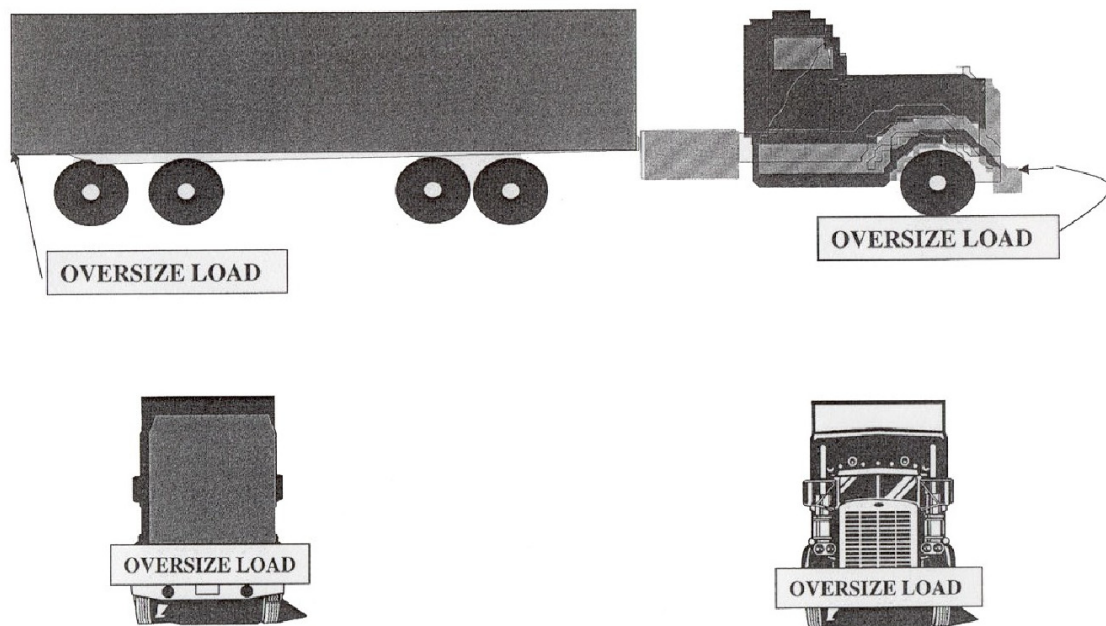

Figure 4.6: Warning Signs on Overlength Loads or Loads With a Rear-End Overhang
- 4.6.5.3 Vehicle and loads exceeding legal length or legal rear overhang shall be required to display two signs with the wording "OVERSIZE LOAD". One sign shall be on the rear of the over length or overhanging part of the load; however, if the sign cannot be attached or is not legible here, then the sign shall be attached to the rear of the vehicle itself. The other sign shall be attached to the front of the vehicle. Refer to Figure 4.6.